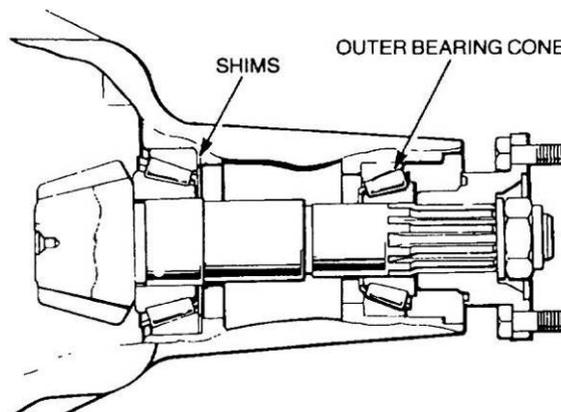

Figure 245 Installation of the Pinion Shaft
- j. Adjust the shim thickness behind the pinion inner bearing cup (Figure 245) as required, by the amount determined in Para 77. i., and recheck the pinion height settings as described in Paras 77. h. and i. If the setting is correct, the mean reading on the dial indicator will agree with the figure marked on the pinion end-face. For example, with an end-face marking of + 4, the dial indicator reading should indicate that the pinion is 0.004 in below nominal.